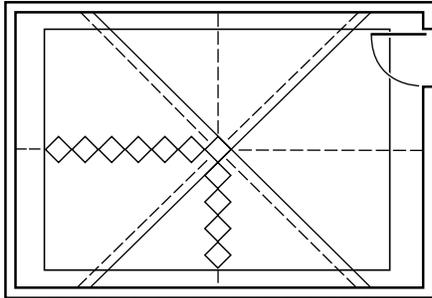

Fig. 18 - Adjusting chalk lines for a diagonal Layout.
- Measure the distance between the last whole tile and the wall. If the distance in either row is less than one-fourth of the diagonal dimension of the tile, adjust the starting point and snap a new chalk line 1/4 of the diagonal dimension of the tile away from the original chalk line (Fig. 18). This will provide a balanced layout with larger cut tile around the perimeter.